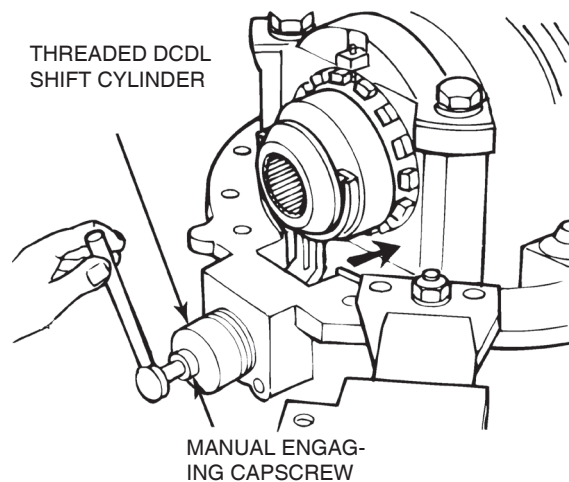

Figure 6.22
10. Engage the splines of the collar with the splines of the main differential case. Insert the manual engaging capscrew through the top of the shift cylinder to move the shift collar toward the differential case. Rotate the collar as necessary to align the splines. Figure 6.22.